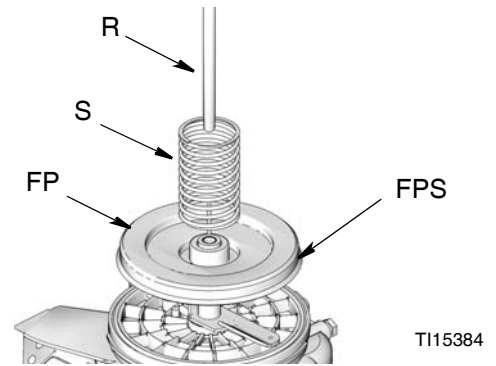

FIG. 4
- a. Verify the following parts were removed with reservoir (FIG. 4):
- Spring (S)
- Follower Pate (FP)
- Rod (R)